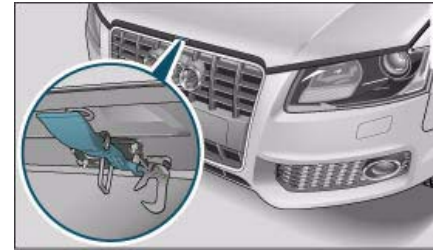

Fig. 211 Release catch under the bonnet
- Press the release catch under the bonnet upwards ⇒ fig. 211. This will release the arrester hook.